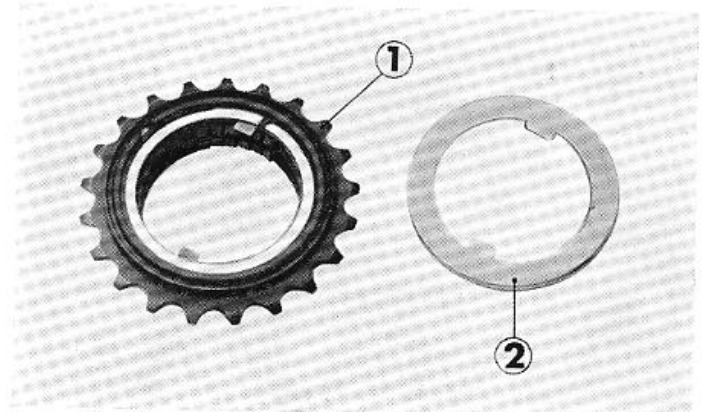

Fig. 4-16 ① Free wheel sprocket
2. Remove the 50mm circlip and disassemble the free wheel sprocket, 50 mm thrust washer A and C. (Fig. 4-16)